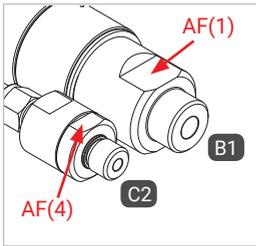
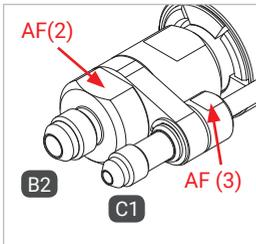

Figure 3
Figure 4
- ▶ When mounting the filling and venting hose, the media line and the gas recirculation onto connections "B1", "B2", "C1" and "C2", hold an open-end spanner against the spanner flat AF(1), AF(2), AF(3) and AF(4) (Figure 3 and Figure 4).
- ▶ Connect the gas recirculation "C2", if provided, to the gas recirculation of the fueling station (Figure 3) in a pressure-tight manner. See the table below for information regarding tightening torque.
- ▶ Screw the media outlet "B2" onto the connection port of the filling hose (Figure 4) in a pressure-tight manner. For the tightening torque, please refer to the table below.
- ▶ Screw the gas recirculation "C2", if provided, onto the connection port of the venting hose (Figure 4) in a pressure-tight manner. For the tightening torque, please refer to the table below.